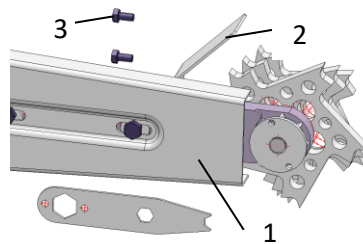

Fig. 4.: Mounting the protective plate
- > Fit the protective plate to the guide bar (1 – Fig. 4).
- > The groove cutter and the carving cutter has another protective plate (2 -Fig.4). This is screwed to the housing with two hexagonal screws (3 - Fig.4).